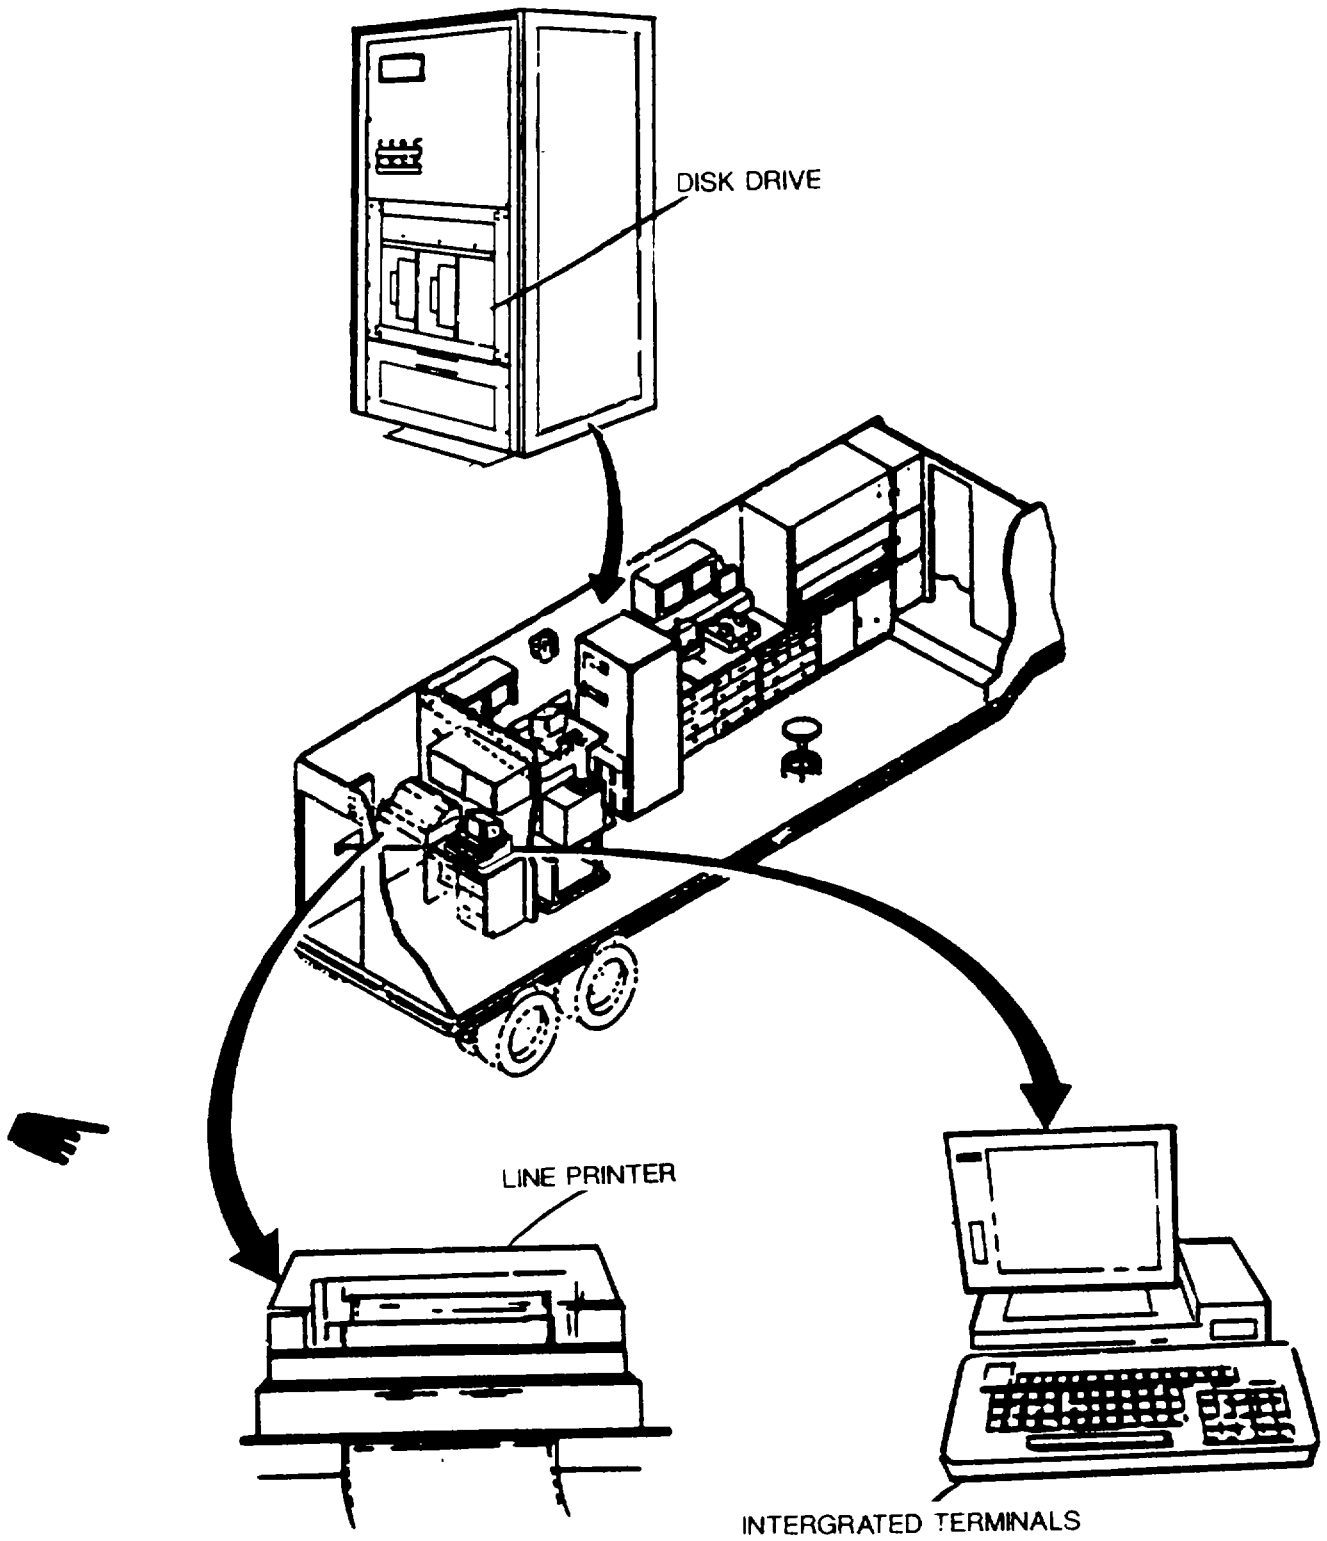

Figure 1-9. The AOAP Standard Data System (SDS)
b. *The AOAP Standard Data System (SDS) (Figure 1-9).* The information generated from the spectrometer can be displayed on the numerical LED indicators or printed out by the autprinter interface which is used by the AOAP Standard Data System (SDS). The AOAP SDS is comprised of the following modular components: